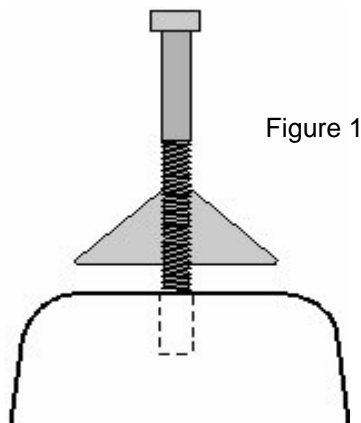

Figure 1
- c. Lightly coat the threads of the 5/16" x 3" Anchor Bolt with silicone grease and screw it into the Alignment Cone until it protrudes approximately ¼" beyond the flat surface. (figure 1)